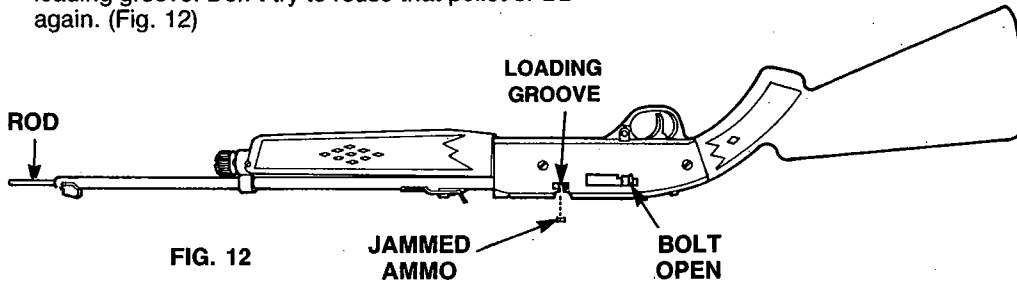

FIG. 12
- F. With the air rifle "On Safe", open the bolt, insert a rod or straightened clothes hanger into the barrel and carefully push the jammed pellet or BB into the loading groove. Don't try to reuse that pellet or BB again. (Fig. 12)